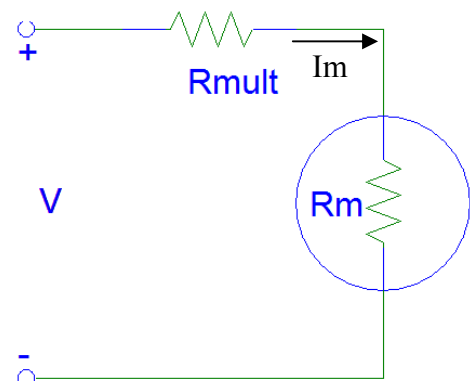

Figure 3 – Voltmeter made from galvanometer and multiplier resistor.
The galvanometer, by itself, is not also not a very effective voltmeter because its resistance is too low to approximate the infinite resistance of an ideal voltmeter. The small range is also inhibitive. We can make a better voltmeter by adding a large resistance in series with the galvanometer. This resistor is called a *multiplier resistor*. The voltmeter constructed from the galvanometer and a multiplier resistor is shown in Fig. 3. Using Ohm's law results in the following equation:
To measure a voltage, the terminals of the circuit in Fig. 3 may be connected in parallel with the element to be measured, just as we would with the digital multimeter. The deflection of the needle corresponds to a fraction of the full-scale value, $V = I_m R_m$.
- Design a voltmeter having a range of 0-10 V. Build the voltmeter (circuit in Fig. 3), using the resistance box for R_{mult} .